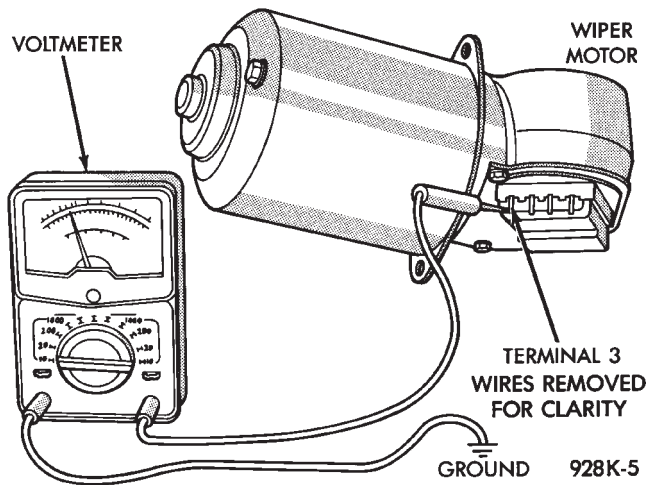

Fig. 8 Voltmeter Between Terminal 3 and Ground
- (1) Check for a blown fuse in the fuse block.
- (2) Place switch in LOW speed position.
- (3) Listen to motor. If you cannot hear it running, go to Step No. 4. If you hear it running, check motor output shaft. If output shaft is not turning, replace motor assembly. If it is turning, drive link to output shaft or linkage is not properly connected. Replace worn parts and/or properly connect drive link to the motor output shaft.
- (4) Connect a voltmeter between motor terminal 3 and ground strap (Fig. 8). If there is no voltage or very little voltage (less than one volt) present, move negative test lead from the ground strap to negative battery terminal.
- (5) Disconnect motor wiring connector and replace fuse. Place wiper switch in all positions.